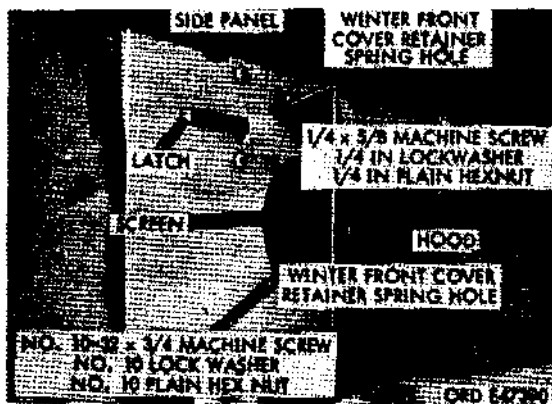

Figure 601. Side panel with hood installed
- (4) Center hood (fig. 601) over screen on side panel and mark location of three mounting holes. Drill three 5/16-inch holes in side panel. Secure hood to side panel with three 1/4 x 5/8 machine screws, lockwashers, and hex-nuts.
- (13) Install duct between adapter on hood side shield and front end of heater (fig. 601). Secure duct with two clamps.